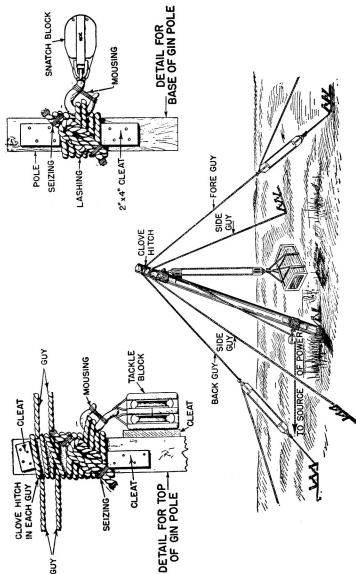

FIGURE 54.—Gin pole.
(1) *Rigging a gin pole* (fig. 54).—Lay the pole on the ground with the base (large end) at the spot where the pole is to be erected. Make a tight lashing of eight or nine turns about 1 foot from the top of the pole; with two or more of the central turns engage the hook of the upper hoisting block. Nail cleats to the pole to prevent the lashing from sliding down the pole. Attach the guy lines with a clove hitch just above the tackle lashing, and nail cleats to the pole just above the guy lines to prevent their slipping off. Lash a block to the butt of the pole about 2 feet above the base in the same manner as at the top of the pole. Now reeve the hoisting tackle.
(2) *Erection* (fig. 54).—Dig a hole where the base of the pole is to rest and anchor the base to prevent its slipping when the pole is raised. String out the guy lines to their respective anchorages and the pole is ready to be raised. Raise the top end of the pole a few feet off the ground and take the slack